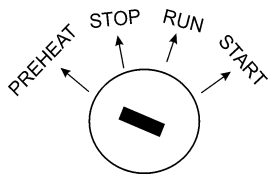

Figure 22. Ignition Switch 'PREHEAT'
7. Turn the ignition key to preheat (Figure 22), until the preheat indicator turns on.